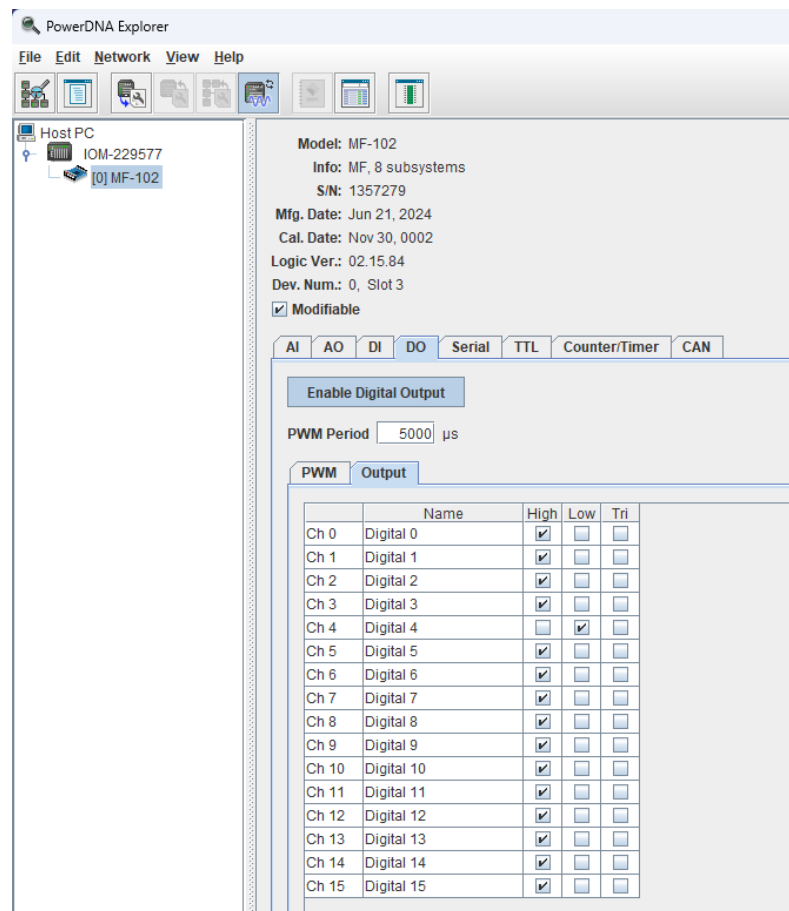

Figure 3-7 PowerDNA Explorer DO Tab, Output Subtab
- The DO Output subtab (**Figure 3-7**) contains the following columns: